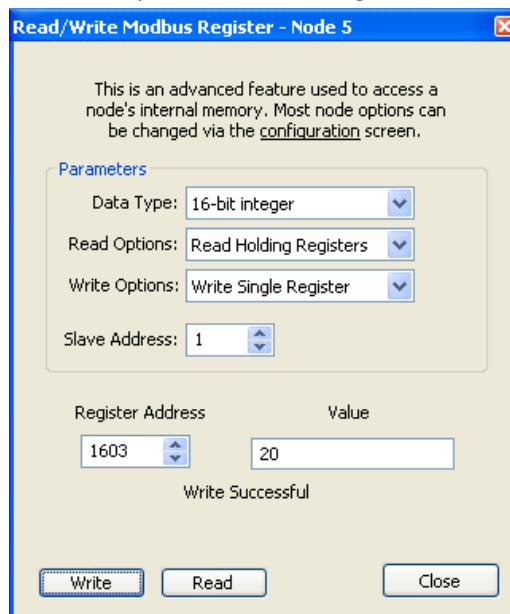

Figure 2. Write 16-bit Integer
7. Type 20 into the Value box and press write. See Figure 2 for reference.